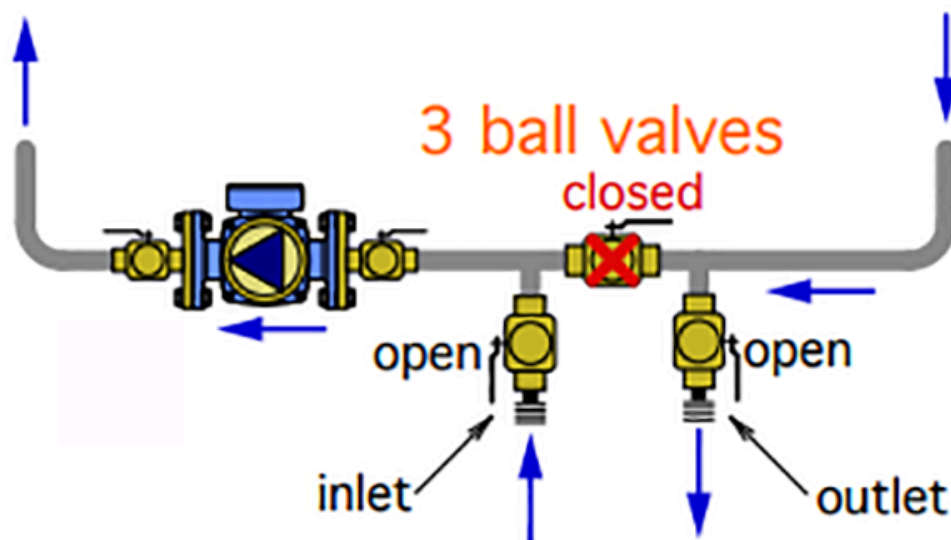

Figure 30 System flushing valve arrangement. (Caleffi, idronics™, 2016). Caleffi S.p.A. All rights reserved. Used with permission.
Either an air purger or microbubble resorber will be located on the supply piping as it leaves the boiler, where the water is hottest and most easily released from the solution. Figure 30 shows a typical location of an air separator within a system.
- **Figure 30** System flushing valve arrangement [Figure 4-9] is by Caleffi Hydronic Solutions (2016, p. 19) in *idronics*TM and is used with permission.